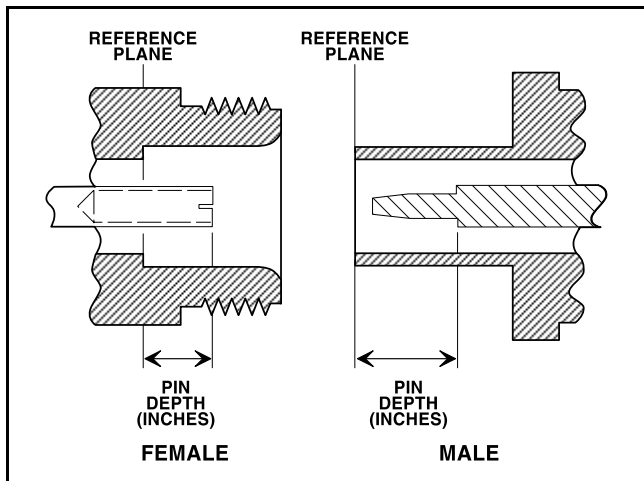

Figure 3. N Connector Pin Depth Definition
- a. **Beware of Destructive Pin Depth of Mating Connectors.** Based on RF components returned for repair, destructive pin depth of mating connectors is the major cause of failure in the field. When an RF component connector is mated with a connector having a destructive pin depth, damage will usually occur to the RF component connector. A destructive pin depth is one that is too long in respect to the reference plane of the connector (Figure 3).